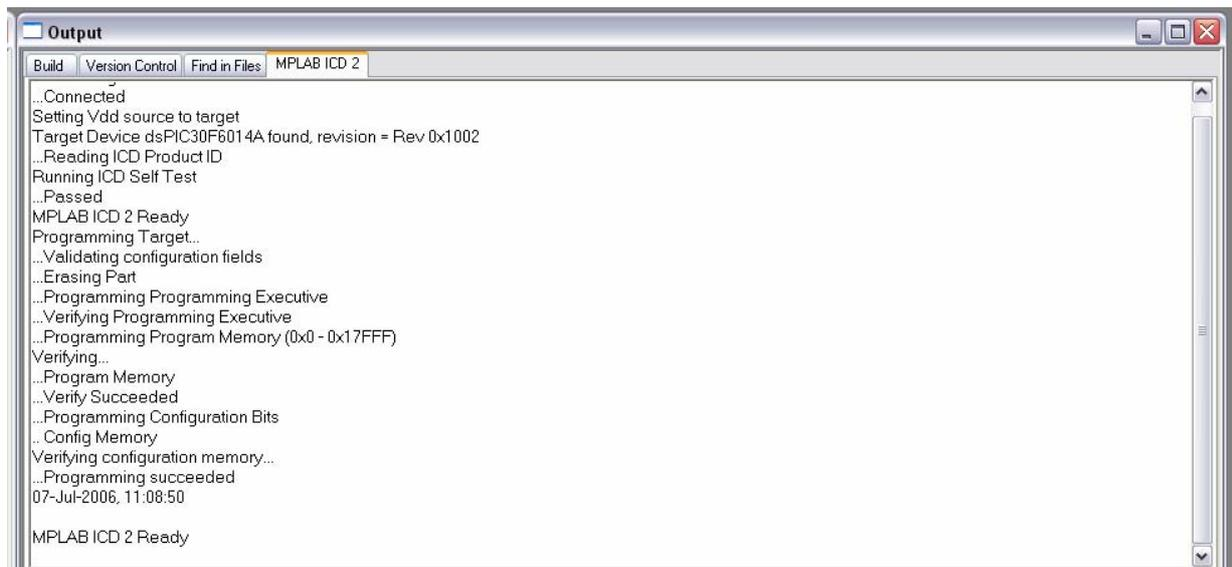

Figure 1: normal result when programming successfully.
3. Then program the e-puck (Programmer->Program). The result window should be like Fig.1